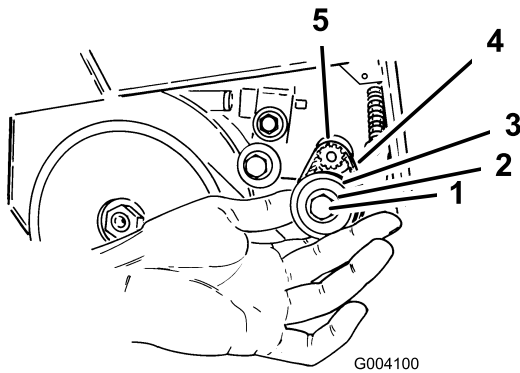

Figure 22
5. Remove the 2 washers and the small pulley (Figure 22).
6. Remove and discard the small belt (Figure 22).
9. Slide the belt over the motor shaft pulley (Figure 22).
11. Slip the large belt over the small pulley (Figure 22). Refer to Replacing the Large Belt.